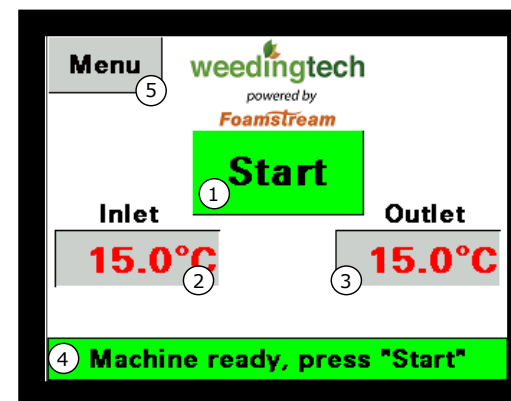

Figure 14 - Start screen of the PLC
- ✓ Wait until the purge is completed. A new screen will appear, represented in Figure 14.
When the M600 is ready to start, the screen below will appear (same as Figure 14)